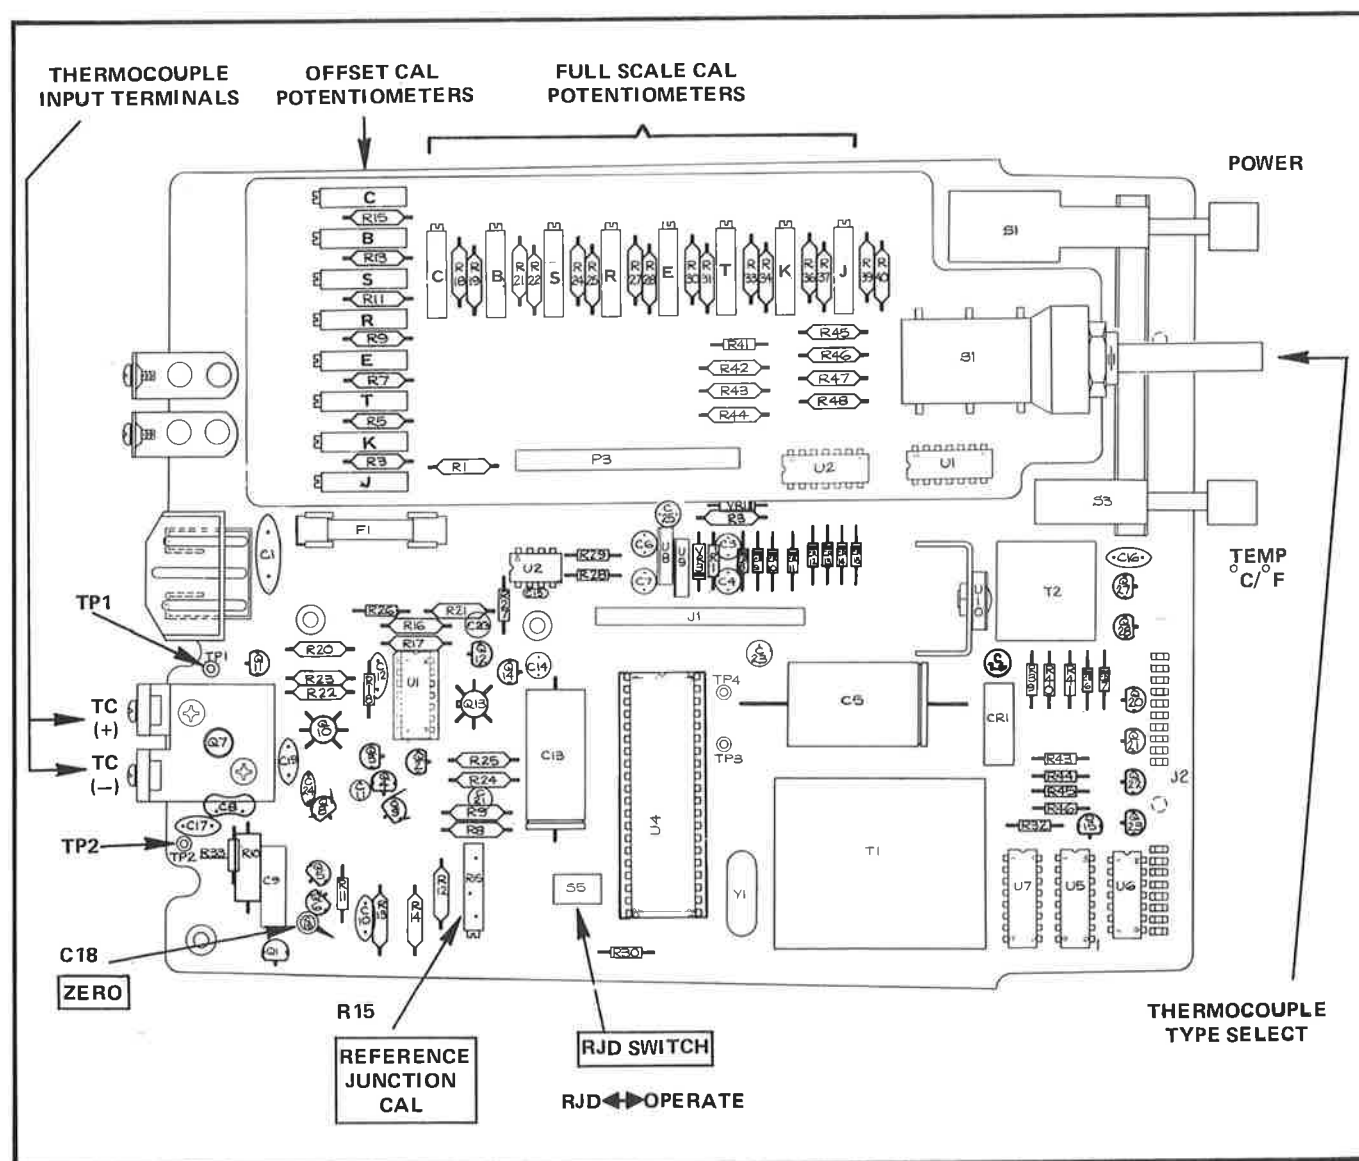

Figure 4-1. TEST POINT AND ADJUSTMENT LOCATIONS
- Locate the RJD switch on the main pcb (See Figure 4-1) and set it to the RJD position. (This defeats the reference-junction circuitry.)